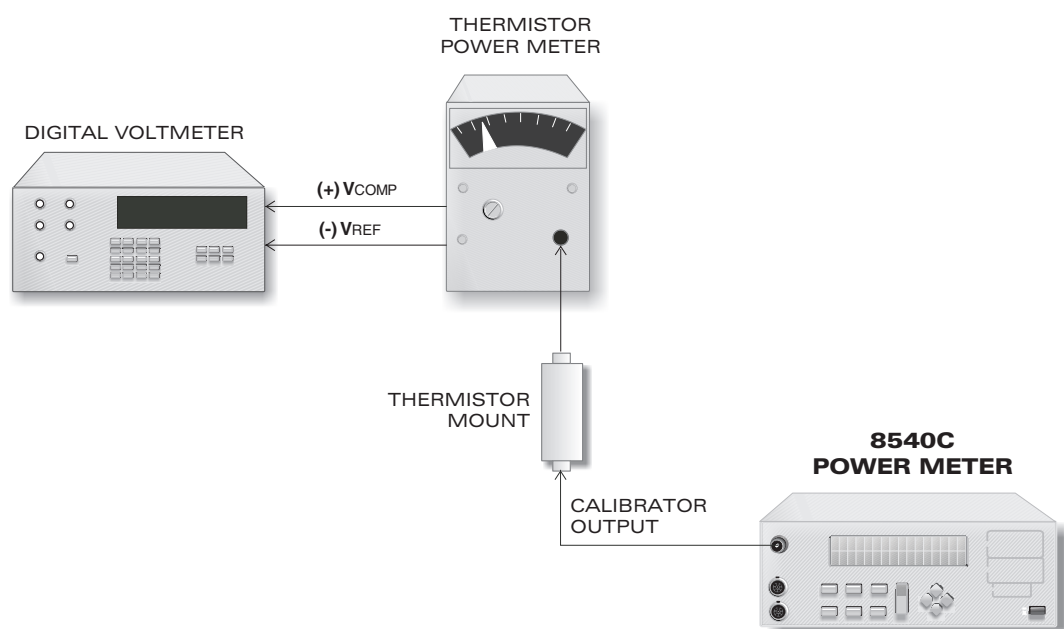

Figure 5-1: Calibrator Output Test Setup
The test setup is illustrated in Figure 5-1.
1. Connect the 432A to the Calibrator Output on the 8540C as shown in Figure 5-1.